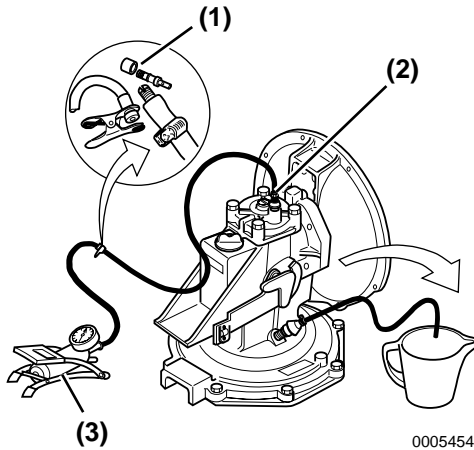

Figure 6
1. Install a one-way (non-return) valve (**Figure 6, (1)**) into the pressure line. This is done to maintain pressure during use of the pump.
2. Connect the hand pump or foot pump with pressure line to the adapter joint (**Figure 6, (2)**).